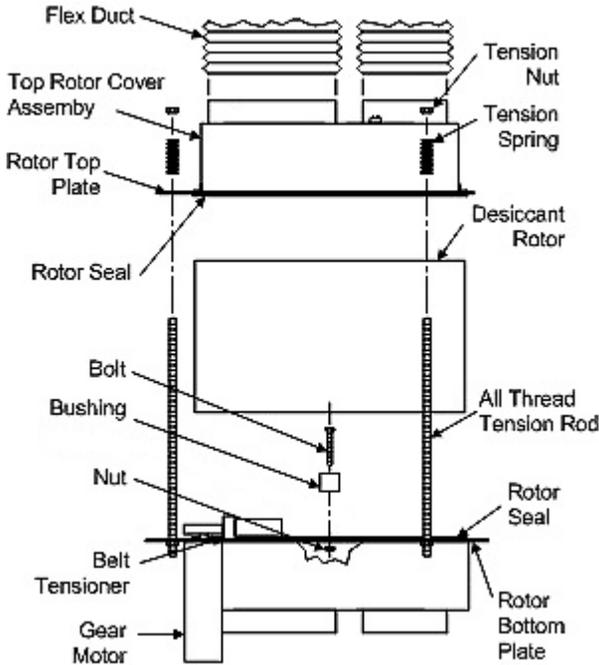

Figure 10 - Rotor Assembly Parts
The following instructions for removing and replacing a drive belt for the rotor are in sequential order. Do not skip or rearrange the steps listed below when replacing the belt. See Figure 10 for an illustration of rotor assembly parts.
See Figure 10 for an illustration of rotor assembly parts.
3. If seals are worn or cracked, use a razor blade or putty knife to scrape the old seals off the rotor bottom and top plates. (See Figure 10 on page 22.)